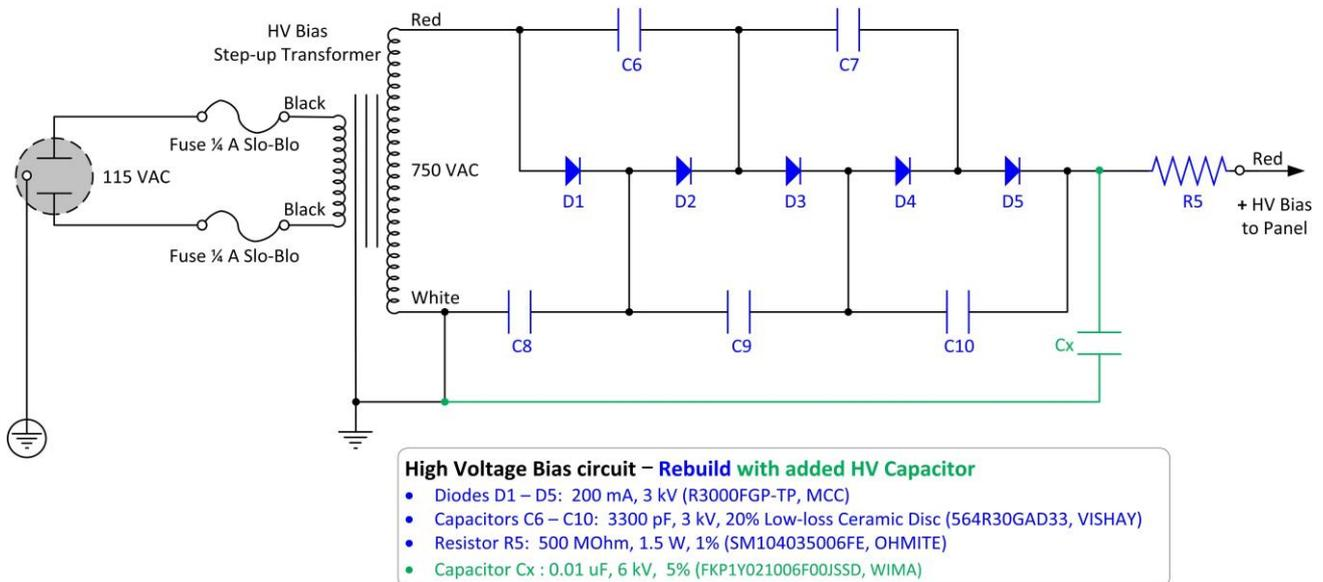

Figure 7. Step-2, high-voltage polypropylene capacitor added to high-voltage ladder (new component coloured in green).
- Next step was to try and improve the high-voltage bias circuit's storage capacity by adding a 0.01 uF, 6 kV WIMA polypropylene capacitor at the output of the capacitor-diode ladder (Fig. 7).